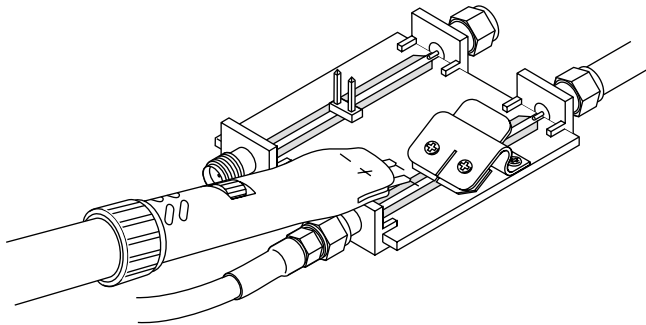

Figure 8-3. Dx00A-AT to Characterization Fixture Connection
- c. Connect the male side of the BNC to SMA adapter to a female end of the Characterization Fixture. Refer to figures 8-3, 8-4 and 8-5 to determine which side of the Characterization Fixture to use for the probe tip module and interconnect lead to be tested.
Figures 8-3 through 8-6 will show how to connect the different modules to the characterization fixture.
- m. Connect the AT module to the fixture. Refer to figure 8-3 to see which side to use.
Refer to figures 8-3 and 8-5 for connection of the Dx00A-AT, D600ST-SI, D500PT-TIP or D350ST-SP to the Characterization Fixture.
- f. Connect the probe tip to the Characterization Fixture as indicated in figures 8-3 and 8-4.